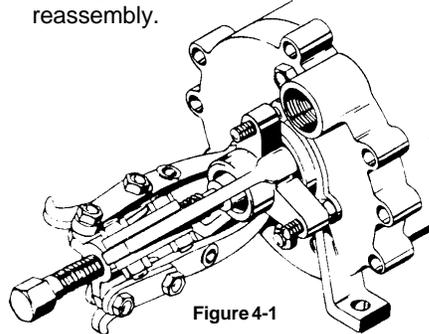

Figure 4-1
3. The bearing arm (#3B) may now be removed. A gear puller may be necessary. (refer to figure 4-1) The outboard ball bearing (#24B) will now be exposed. Locate the tab on the bearing lock washer (#39B) which is holding the bearing lock nut (#38B) in place. Bend this tab straight by prying underneath it with a screwdriver or chisel. Once the tab has been lifted somewhat, use a pin punch or drift to tap the tab out of the slot in the bearing lock nut (#38B). Using a spanner wrench or punch, loosen and remove the bearing lock nut (#38B). Slide the lock washer from the shaft. The outboard ball bearing (#24B) should now be removed. A gear puller will have to be used for this operation. If the bearing can be removed too easily, a worn bearing surface may be indicated. Replace the shaft and bearing as necessary before reassembly.